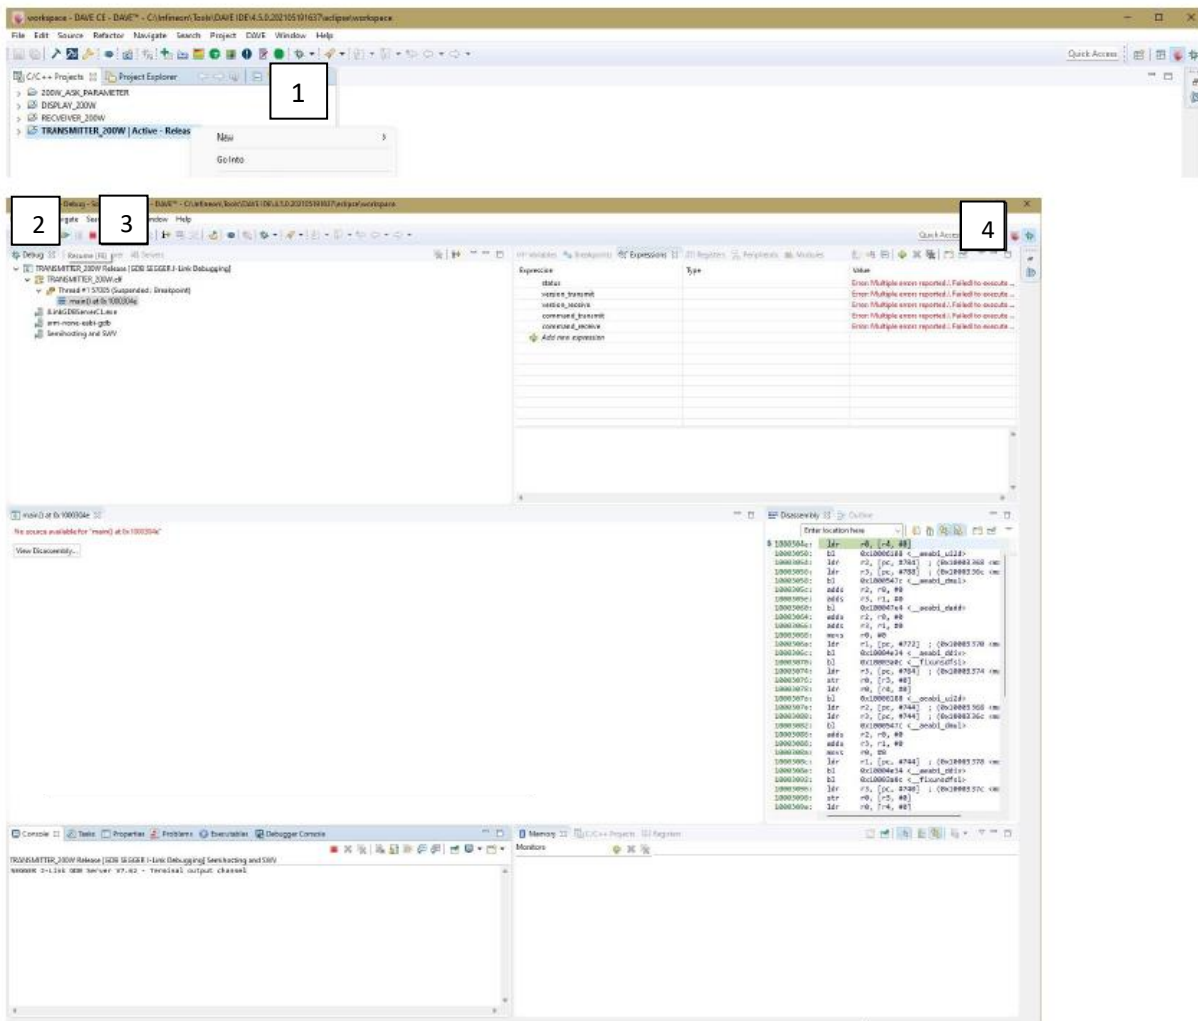

Figure 8: Procedure to flash the Tx board
1. Click on 'Debug Transmitter_200W', which is the bug icon as shown in Figure 8.
1. Click on '*Debug Reciever_200W*', which is the bug icon. Choose the right debugger configuration from the drop down menu that opens upon clicking the arrow mark next to the bug icon as shown in Figure 8.